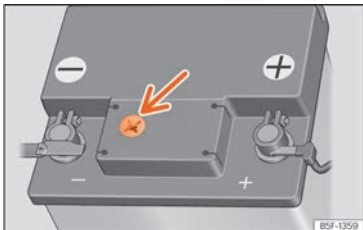

Fig. 238 Sight glass on the top of the 12 volt battery [schematic representation].
- Check the colour display in the sight glass on the top of the battery »» **Fig. 238**. Ensure sufficient lighting to clearly identify the colour shown in the battery window. Never use flames or objects that burn without a flame as a light source.